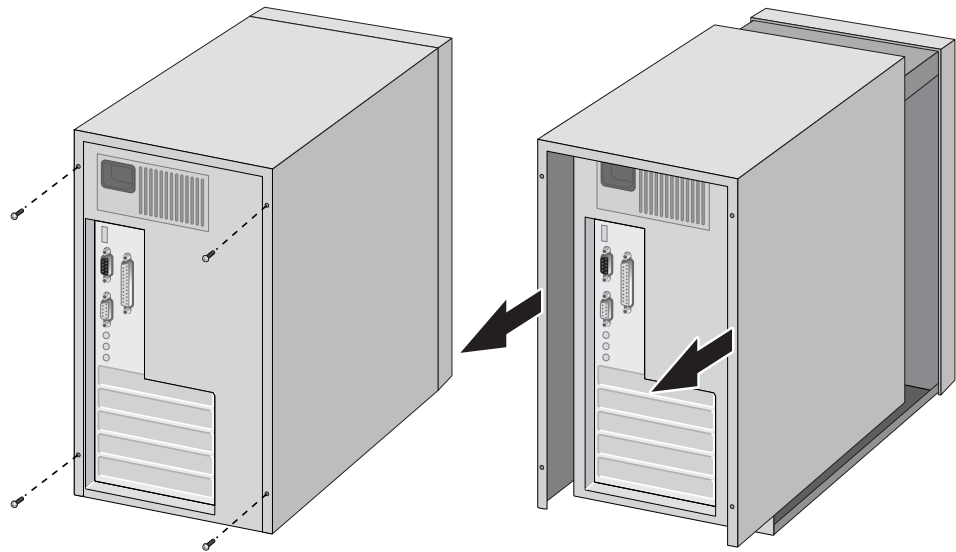

Figure 7. Removing the PC Cover
2. Remove the system cover and select any appropriate empty PCI slot. See Figure 7 on page 28.